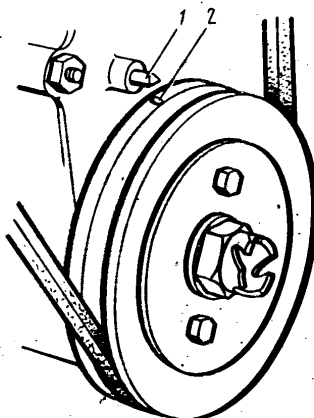
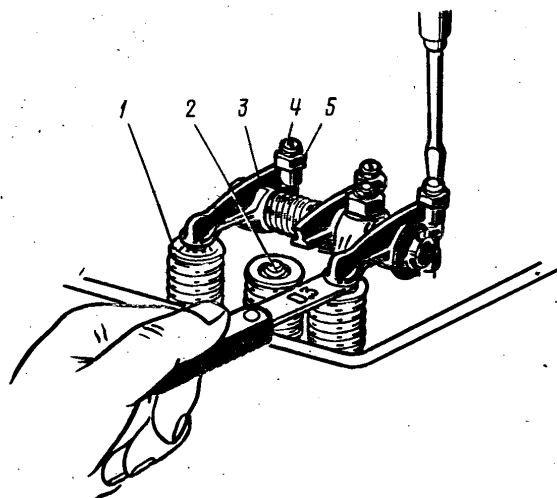

Fig. 28. Setting No. 1 Cylinder Piston at TDC :
Fig. 29. Adjusting Valve-to-Rocker Clearance:
- set the No. 1 cylinder piston at TDC on compression stroke against timing mark 2 (Fig. 28) on the crankshaft pulley and, using a feeler gauge, check the valve clearance between the rockers and the valves of the No. 1 cylinder. If the clearance is wrong, turn off locknut 5 (Fig. 29) of adjusting screw 4 and turning the adjusting screw with a screwdriver, set the clearance by the feeler gauge. Then, holding the adjusting screw with a screwdriver, tighten the locknut and check the clearances;